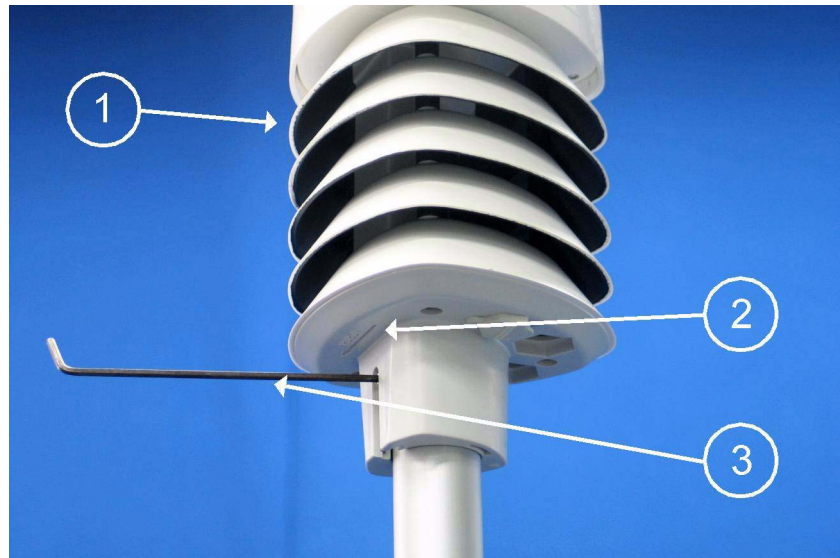

Figure 100 Weather Transmitter Alignment
2. Use a compass to determine that the transducer heads of Weather Transmitter are exactly in line with the compass and that the arrow on the bottom (number 2 in Figure 100 on page 107) of Weather Transmitter (1) points to the north.
3. When the arrow (2) is exactly aligned to north tighten the fixing screw with an appropriate Allen key (3).